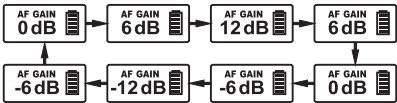

Fig. 12
7. AF Gain Setting. Fig. 12:
- (A) AF Gain can be changed from 12dB ~ -12dB, in 6dB steps.
- (B) Press MODE button to access AF GAIN parameter. Press SET button to change. To save, press MODE button or until flashing stops.
- (C) The higher the AF gain is, the lower the input signal of dynamic range will be and it will increase noise and feedback chances.
- (D) Set AF Gain to -12dB for guitar.
- (E) 0dB is the factory default setting.